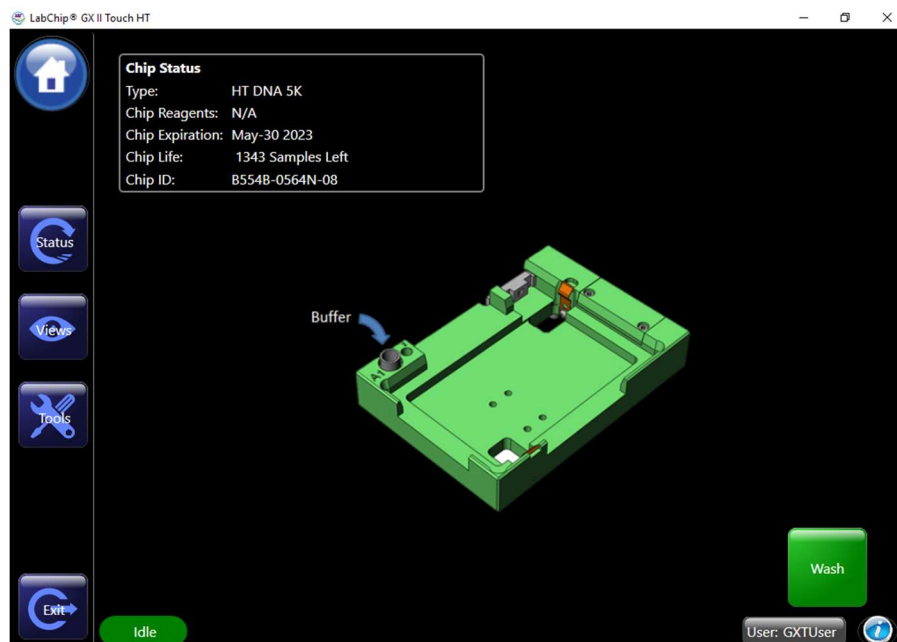

Figure 14. Wash Screen
- 9 Touch the **Wash** button on the Home screen. The Wash screen (Figure 14) opens.